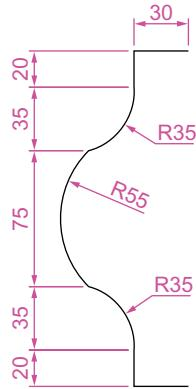

Fig. 5.7 First example – **Mirror** – outline
1. Construct the outline Fig. 5.7 using the **Line** and **Arc** tools.